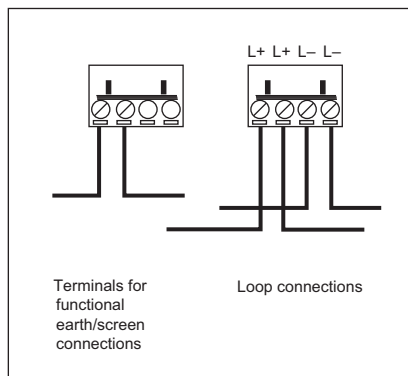

Fig 2 Terminal block connections
2. Run the cables from the loop into the backbox and connect them to the terminal blocks as shown in Fig 2. Ensure that functional earth/screen continuity is maintained. Screens should be connected to the yellow terminal block marked 1-4 on the black PCB cover.
5. Unlock the small front cover by inserting the forked key and pushing it home. Remove key, slide the cover down and remove the deformable element. Connect the terminal blocks as shown in Fig. 2, secure the call point to the backbox and refit the deformable element as required. Finally, replace the front cover in the reverse order in which it was removed and push it up until it locks.